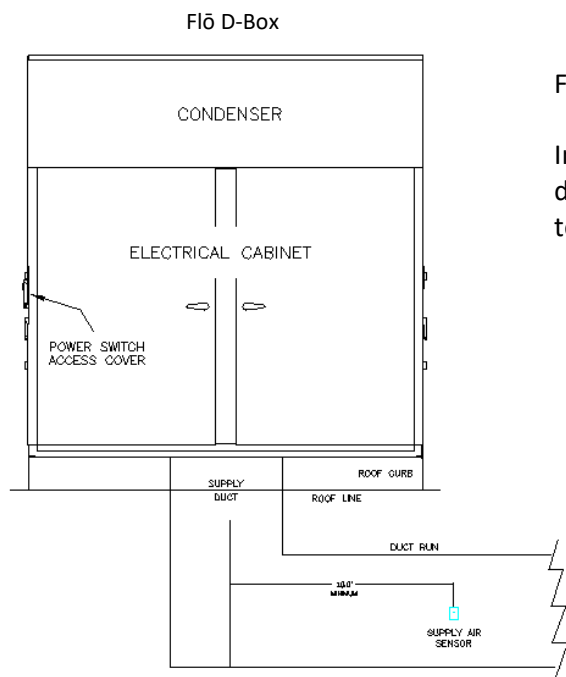

Figure 2 – D-Box (31 - 70 Tons) with traditional ductwork.
For traditional ductwork, install the SAT sensor ten (10) feet down the supply duct run as shown in *Figure 2*.